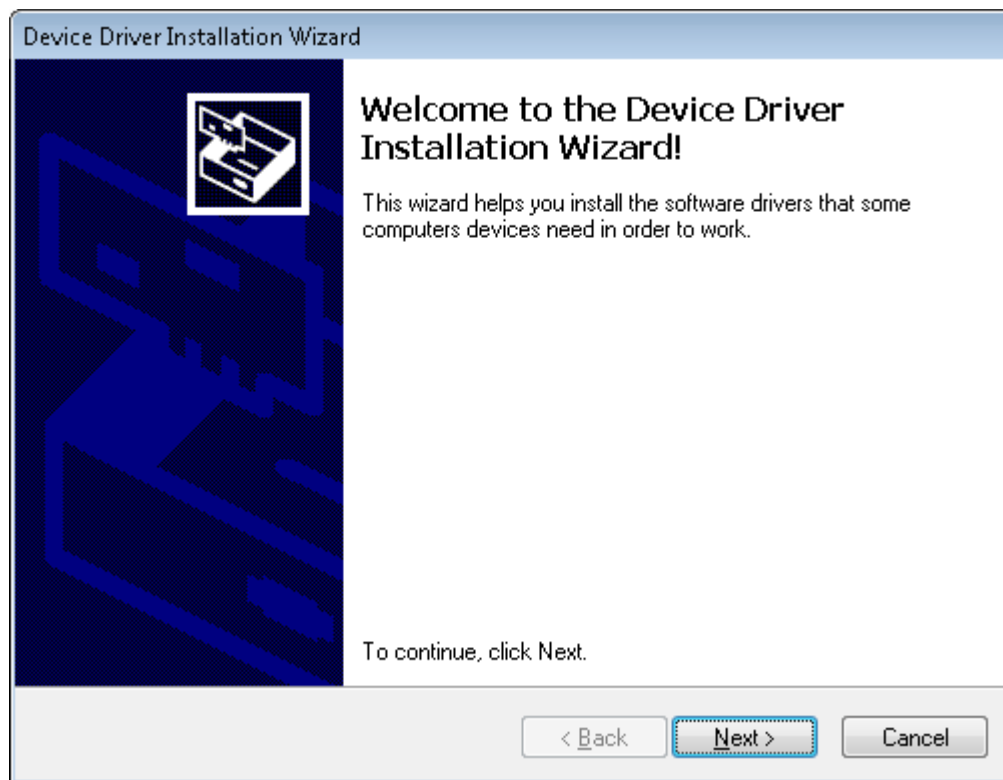

Figure 19. Driver Installation Wizard
15. A screen as shown in Figure 19 appears, click **Next** to proceed.